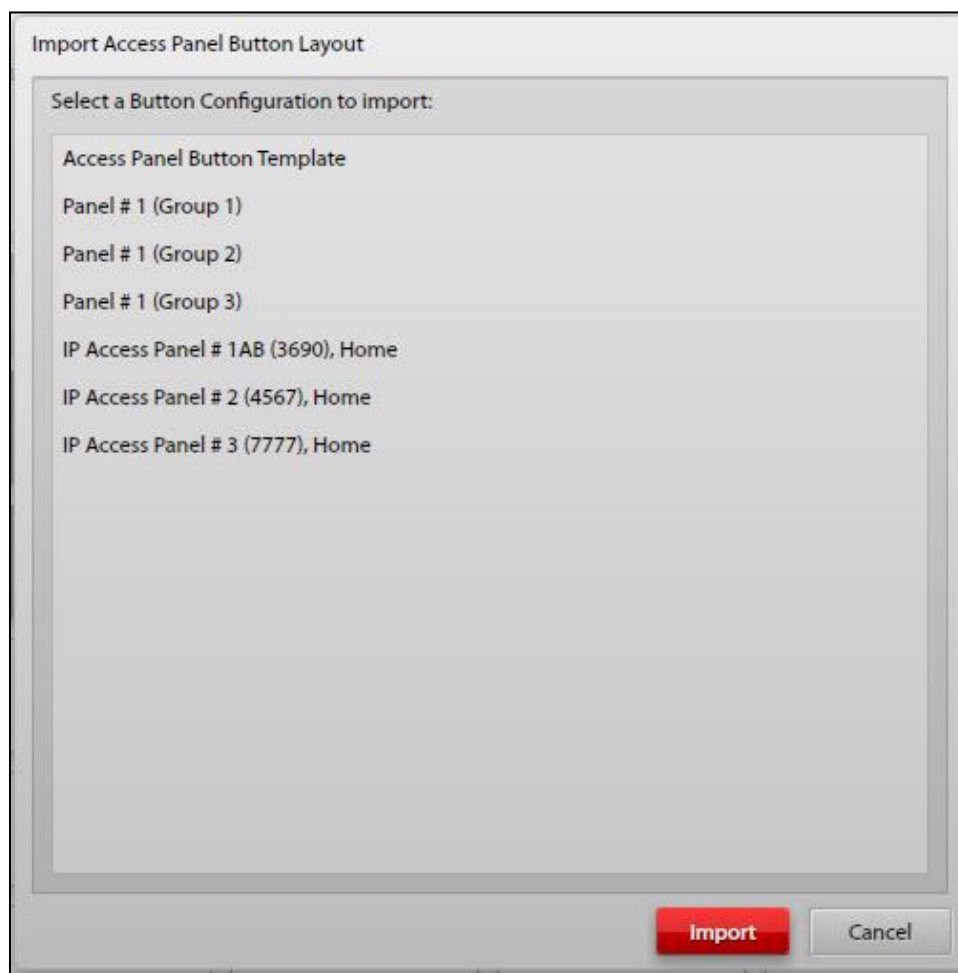

Figure 39. Import Access Panel Button Layout
- **IMPORT Button**—Imports access panel button layouts and overwrites the current button page with the buttons defined in the selected button configuration. Click **IMPORT** or **CANCEL** to complete the operation (see Figure 39).